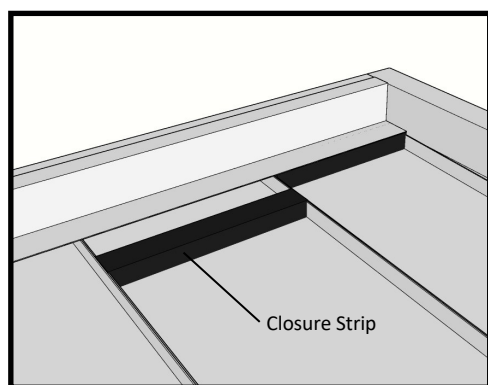

Fig 10
10. Install the closure strips by laying down a bead of caulk onto the decking pans, then push the closure strip under the flashing lip (see fig 10).